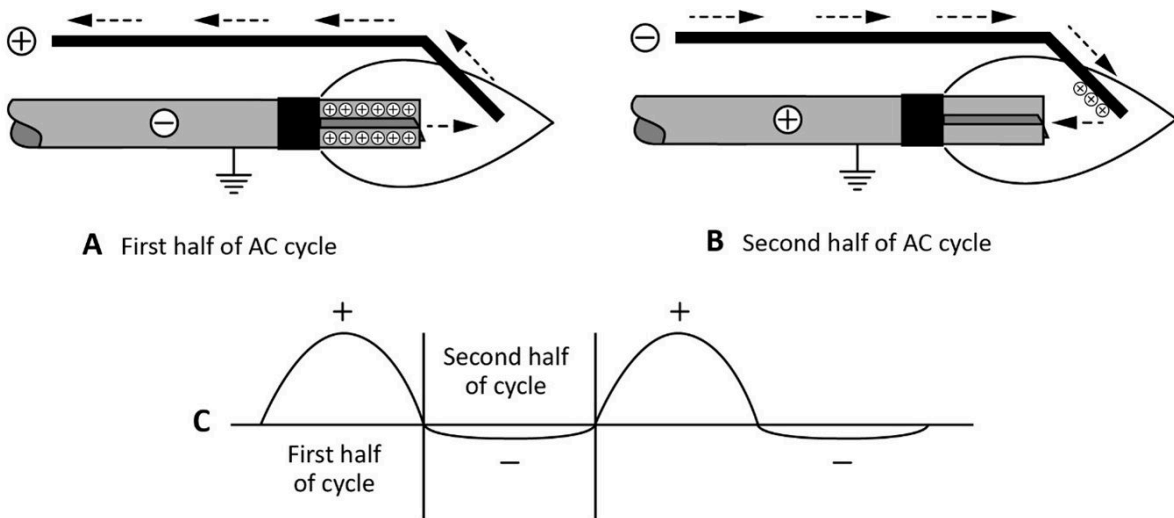

Figure 9 Current flow in a flame rectification system
- Figure 9 “Twist drill index” by Camosun College is licensed under a CC BY 4.0 licence.
For a rectified system, when an AC supply voltage is placed across the two electrodes during the first half of the AC cycle, the flame rod is positive and the grounding area is negative (Figure 9 A). The positively charged ions collect on the negative charged grounding area. Since the grounding area is very large, it holds many ions. The positively charged ions pull a high stream of electrons into the flame, more than if the grounding area was the same size as the flame rod. This results in a high current flowing from the grounding area to the flame rod during the first half cycle of the AC supply voltage (Figure 9 C).
During the second half cycle, the reverse process takes place (Figure 9 B). However, the capacity of the
- Figure 9 “Current flow in a flame rectification system” by Camosun College is licensed under a CC BY 4.0 licence.